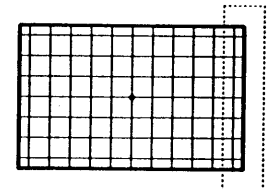

FIG. 8
18. RK48 (KEY) controls the outer most line on the right hand side. Adjust RK48 so that the blue line is at its most parallel point to the green and not necessarily converged on top of it. See Fig. 8.